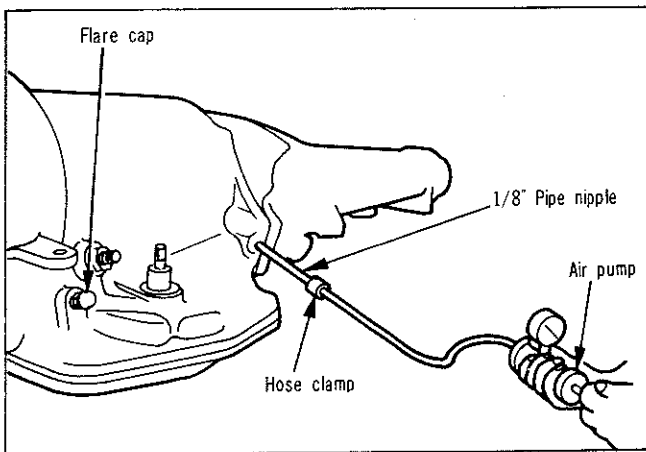

Fig. 73—Pressurizing transmission
(1) Install filler tube bore plug, propeller shaft yoke (tie in with cord or wire), flared tube fitting cap (on front cooler line fitting), and pipe nipple (in case at rear cooler line fitting) (Fig. 73 and 74).
(2) Remove necessary front pump housing bolts. Install vent plug (rubber stopper), and vent plug retainer preferably using longer bolts than those removed.
(4) Attach and clamp hose from nozzle of Tool E7C15 to pipe nipple, which is in the rear cooler line fitting position in case (Fig. 73).
(5) Pressurize the transmission using Tool E7C15 until the pressure gauge reads 55 kPa (8 p.s.i.). Position transmission so that pump housing and case front may be covered with soapy solution or water. Leaks are sometimes caused by porosity in the case or pump housing.